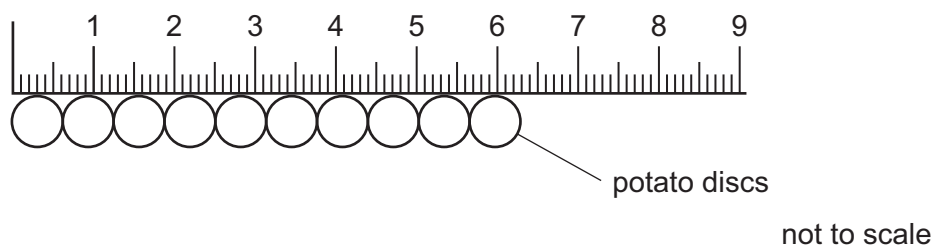

Fig. 1.2
- Step 4 Place 10 potato discs in a line on the white tile. Place the ruler at the start of the line so you can measure the total length of the line of potato discs, as shown in Fig. 1.2.
- Step 10 Put the 10 potato discs from beaker **S1** onto the white tile and line them up as shown in Fig. 1.2.